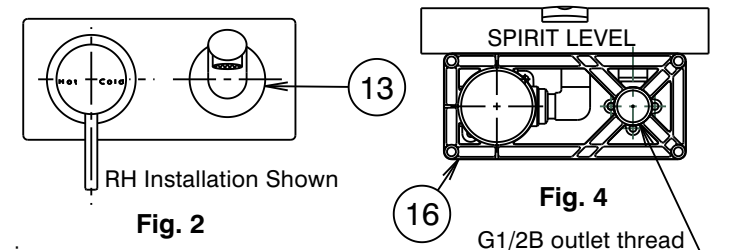
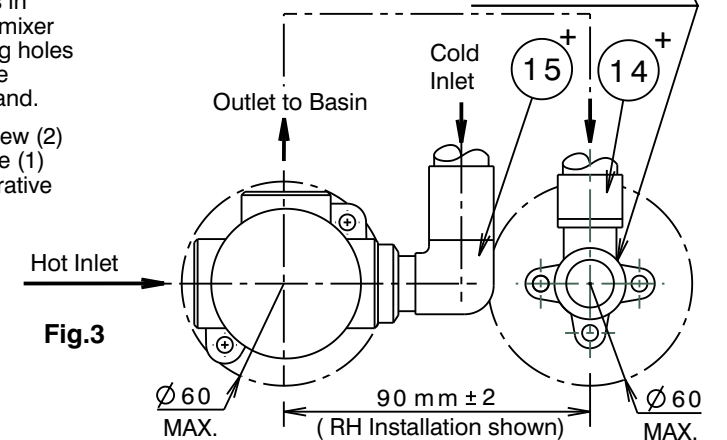

Fig. 2
Fig. 3
- 1) Fit mixer body (12) onto a suitable mounting plate or noggin in the wall and secure using screws through the holes in its base. When facing the mixer, the connections should be as follows : Hot water inlet connection 'H' to the left. Cold water inlet connection 'C' to the right. Mixed water outlet connection, vertically upwards.
- Note : A suitable elbow fitting (15+) should be fitted to the inlet connection adjacent to the basin outlet (13) (Fig.3). Check all connections for leaks.
- \* Mixer body (12) must be installed square to wall/tile face, to ensure cover plate (8) sits flush.
- 2) Determine the orientation of the basin outlet (to the right or left of mixer body)(Fig.2). Connect the outlet of mixer body to the inlet of wall elbow (14+) using suitable pipework. **Note:** Pipework and fittings are not supplied. Fit the large hole of the template (16) over the protective sleeve of the mixer body with the G1/2B outlet thread of the wall elbow (14+) located in the remaining hole as shown in Fig. 4. **Note:-** The flat face of the template must be at the back. Place a spirit level on the corner pegs at the top of the template, then when the alignment is horizontal fix the wall elbow using suitable screws through the holes in its base. Remove template (16) & discard.
- 3) Fit cover plate (8) followed by retaining ring (7) onto mixer body (12). Rotate the retaining ring until pin is engaged in slot in cover plate and position so that the screws (6) are at the bottom. Push retaining ring and cover plate firmly against wall/tile face and tighten screws (6) using 2mm allen key (5).
- 4) Fit handle (1) taking care that it is pushed fully down, tighten screw (2) using the 2.5mm allen key (3). Screw handle lever (4) into handle (1) & tighten firmly by hand, taking care not to damage the decorative finish.